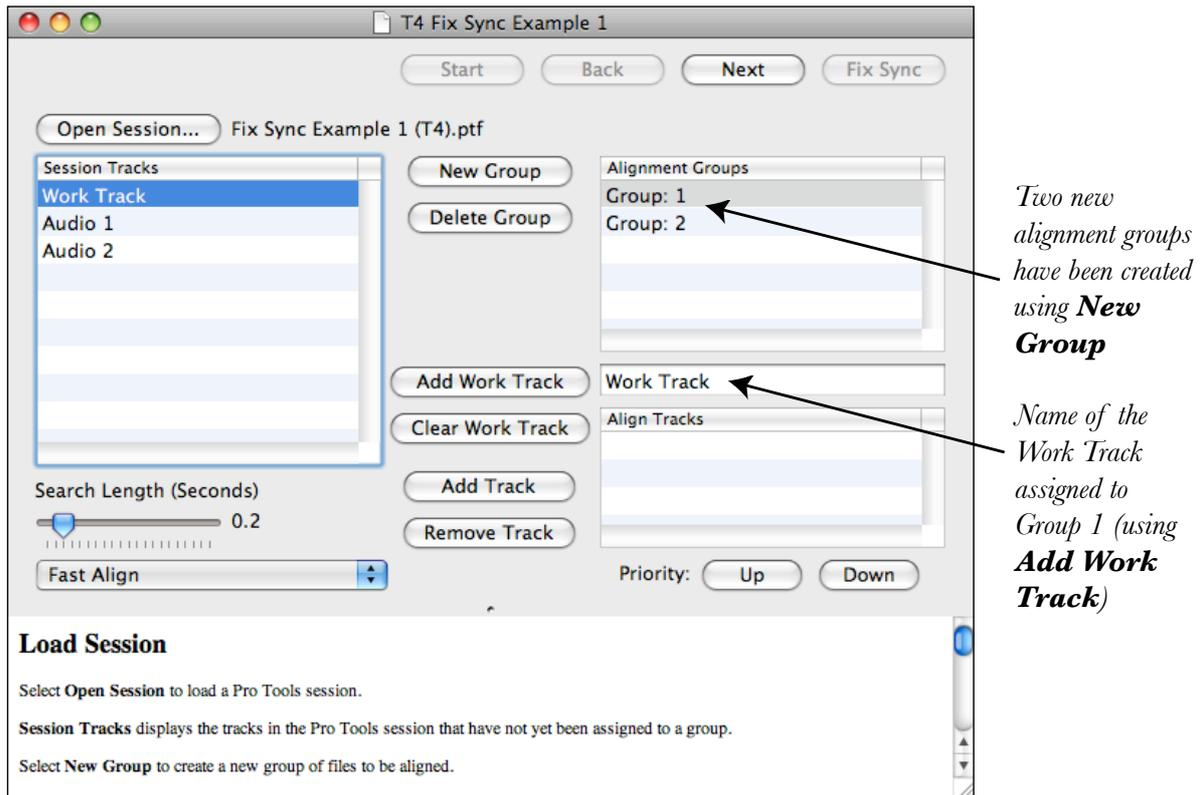

Figure 19 Creating groups and assigning work tracks to them
- In the **Alignment Groups** list, click **Group: 1**. In the **Session Tracks** list click **Work Track**. Click **Add Work Track** to assign this track as the 'guide' track for this alignment group. The name of the assigned work track appears in the middle-right of the **Fix Sync** window as shown in Figure 19.